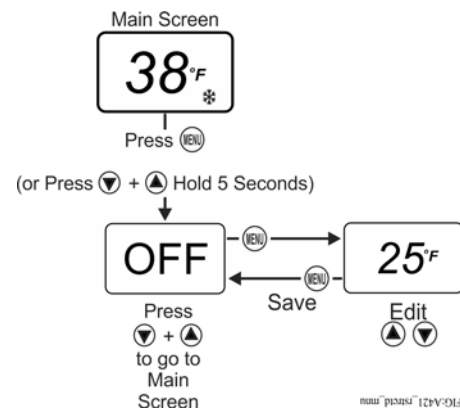

Figure 11: Adjusting Temperature in the Restricted Menu (Factory Default Values Shown)
- The basic and advanced menus are not available. Only the restricted adjustment mode menu is available and only the **OFF** value can be adjusted. See Figure 11.
1. In the Main Screen, press **MENU** to go to the restricted adjustment mode menu and display the **OFF** parameter code screen (Figure 11).